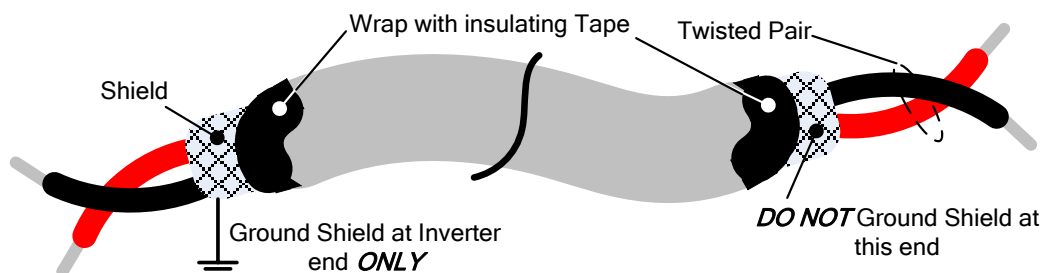

Fig. 3.14.1 Shielded Twisted-Pair
- (1) Separate the wiring for control circuit terminals from main circuit wiring for terminals (R/L1, S/L2, T/L3, U/T1, V/T2, W/T3).
- (2) Separate the wiring for control circuit terminals R1A-R1B-R1C or R2A, R2B (Relay outputs) from wiring for terminals S1 – S6, A0, AGND, +10V, AI1, AI2 and GND wiring.
- (3) Use shielded twisted-pair cables (#24 - #14 AWG / 0.5 -2 mm²) shown in Fig. 3.14.1 for control circuits to minimize noise problems. The maximum wiring distance should not exceed 50m (165 ft).